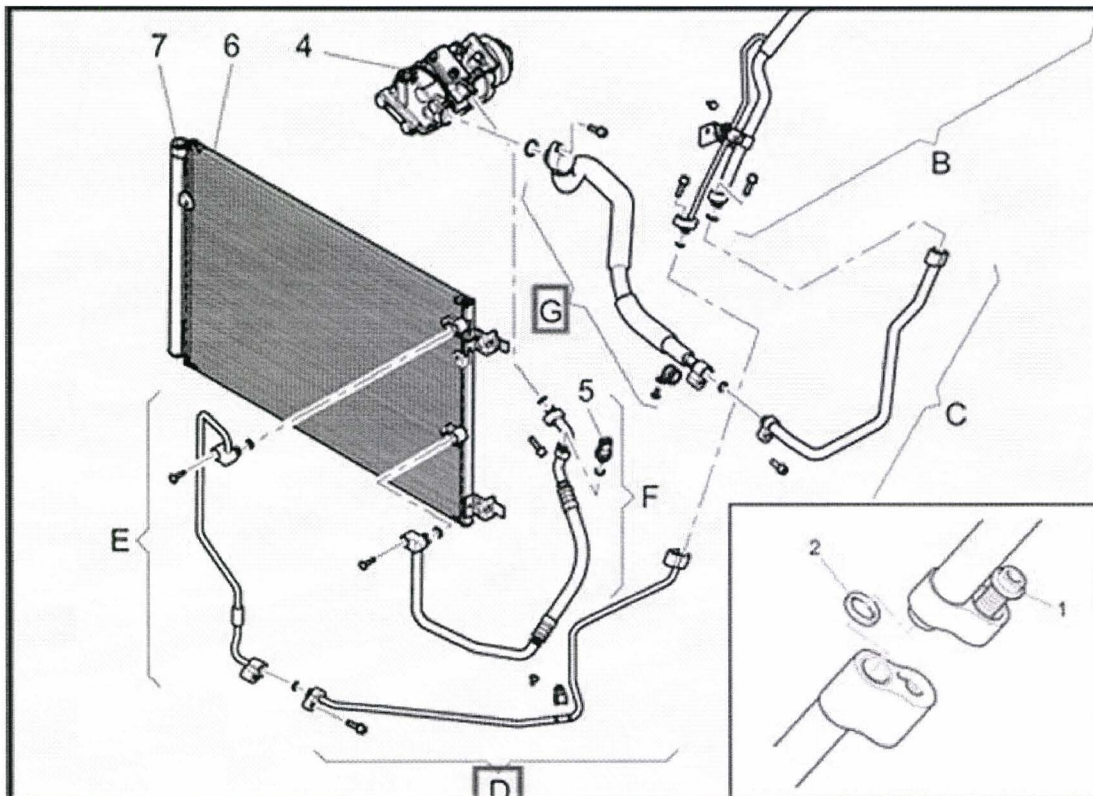

Figure 4
11. Apply yellow paint campaign identification mark to the air conditioning suction pipe (see Figure 4)
4. Locate and replace pipe G and D (see Figure 4). Refer to workshop manual Rep. Gr.87 Refrigeration pipes and hoses – To remove and fit